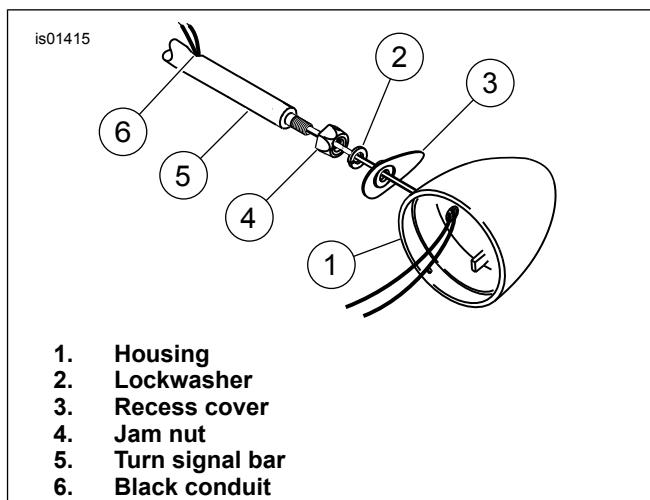

Figure 3. Turn Signal Installation
- See Figure 3. Install the chrome jam nuts (4) onto either end of the turn signal bar. Route the turn signal wires:
- through the threaded hole in the turn signal housing (1),
- through the recess cover plate (3),
- through the new 5/16 lockwasher (2),
- insert wires into the turn signal bar (5) end,
- Screw the turn signal housing (1) onto the threaded stud end being careful not to twist the wires. Leave the turn signal housing loosely fastened to the bar. Install bulb and lens.